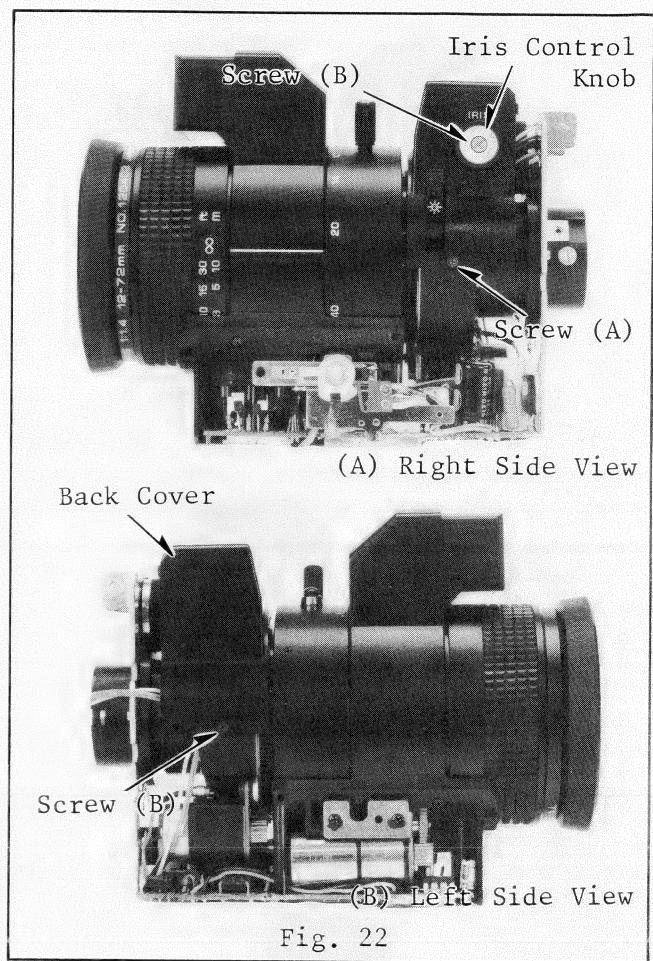

Fig. 22
- 6-3. Unscrew 2 screws (A) (see Fig. 22-A/B).
- 6-4. Unscrew a screw (B) and remove the iris control knob (see Fig. 22-A).